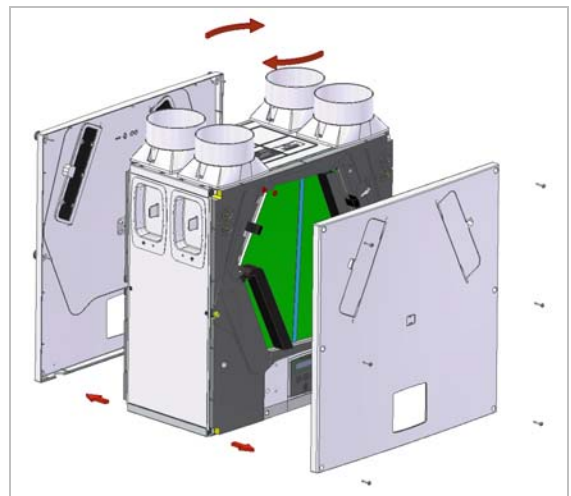

Figure 4: Installing the Unit in the Opposite Orientation
1. Remove the front and rear covers by unscrewing the 6 fixing screws on each cover (see *Figure 4*).